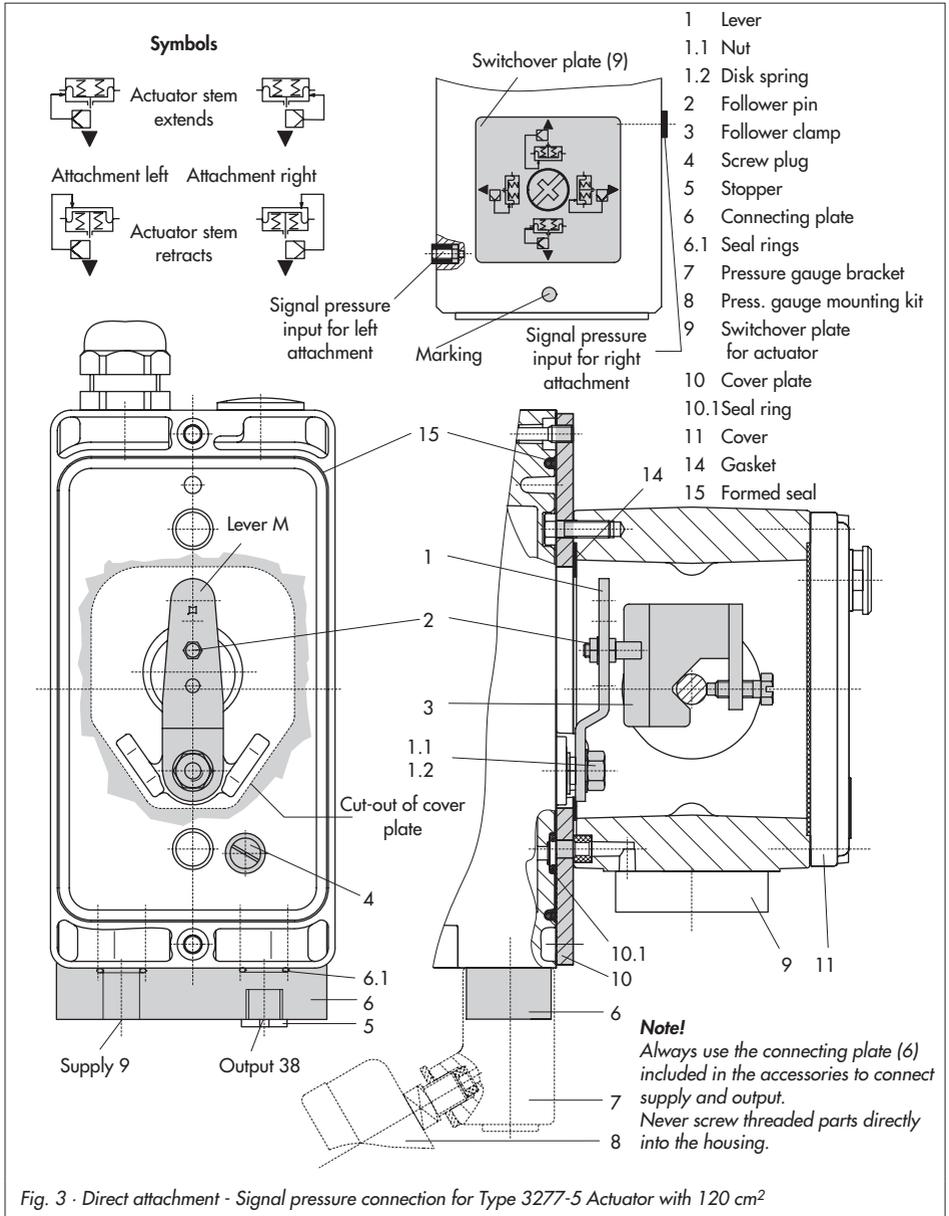

Fig. 3 · Direct attachment - Signal pressure connection for Type 3277-5 Actuator with 120 cm²
| Table 1 Direct attachment to Type 3277-5 Actuator, see Fig. 3 | | | | |
1. Mount connecting plate (6) or pressure gauge bracket (7) with pressure gauges onto the positioner, making sure both seal rings (6.1) are seated properly.
2. Remove screw plug (4) on the back of the positioner and close the signal pressure output "Output 38" on the connecting plate (6) or on the pressure gauge bracket (7) with the stopper (5) included in the accessories.
3. Place follower clamp (3) on the actuator stem, align and screw tight so that the mounting screw is located in the groove of the actuator stem.
4. Mount cover plate (10) with narrow side of the cut-out opening (Fig. 3, on the